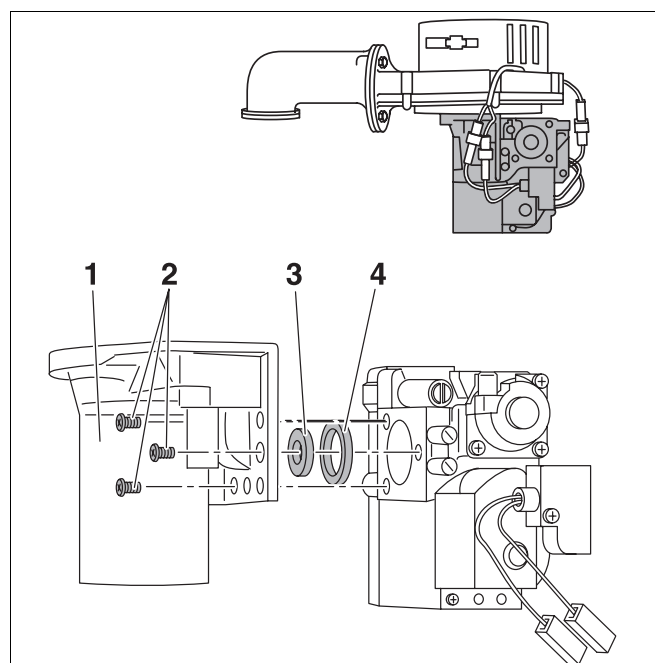

Fig. 93 Replacing a gaz nozzle
Conversion to another gas type is implemented by installing/removing a gas nozzle (fig. 93, item 3) of the appropriate gas nozzle diameter (table 9).
- Undo the three screws (fig. 93, item 2) on the long side of the gas fitting.
- Insert new seal (fig. 93, item 4).